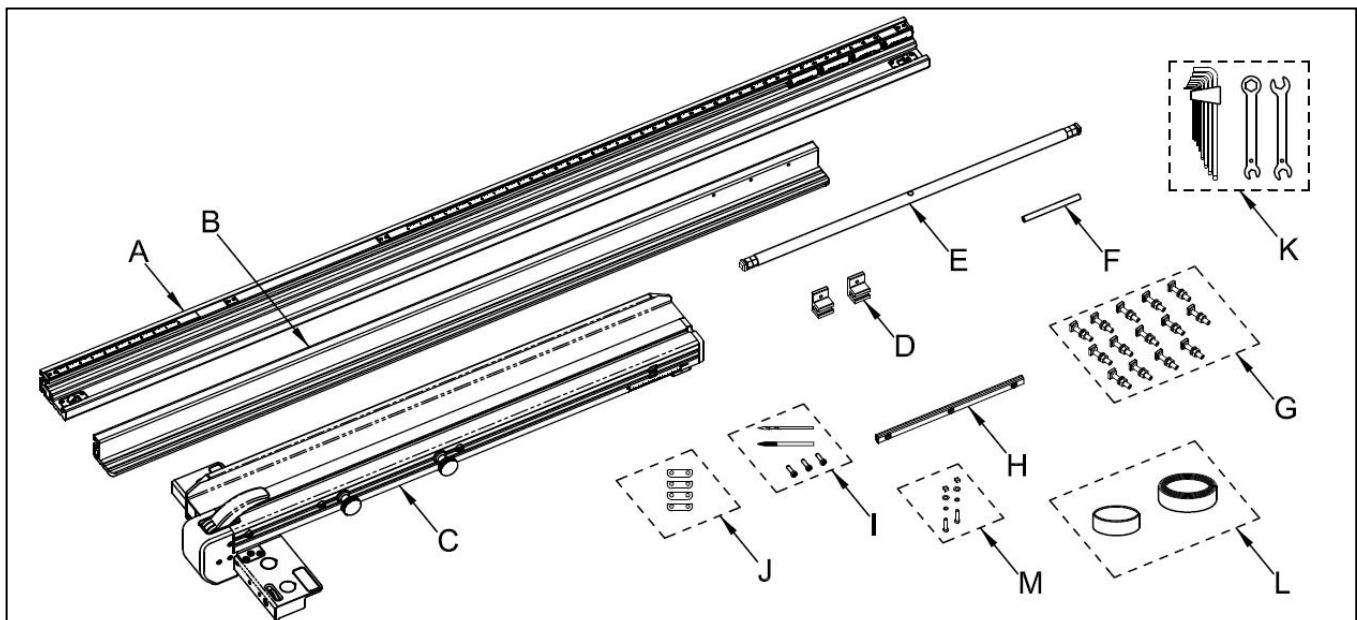
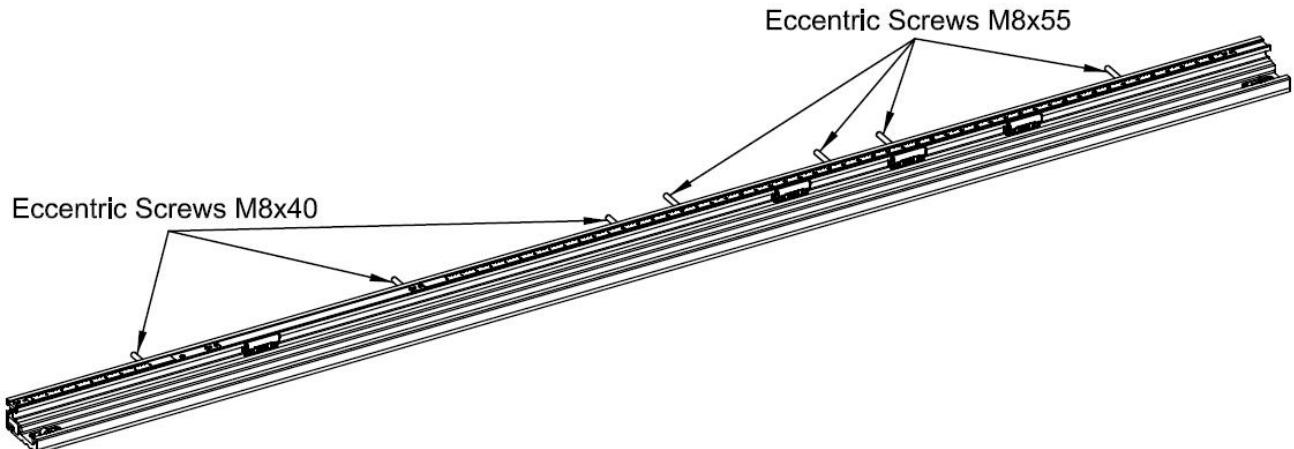
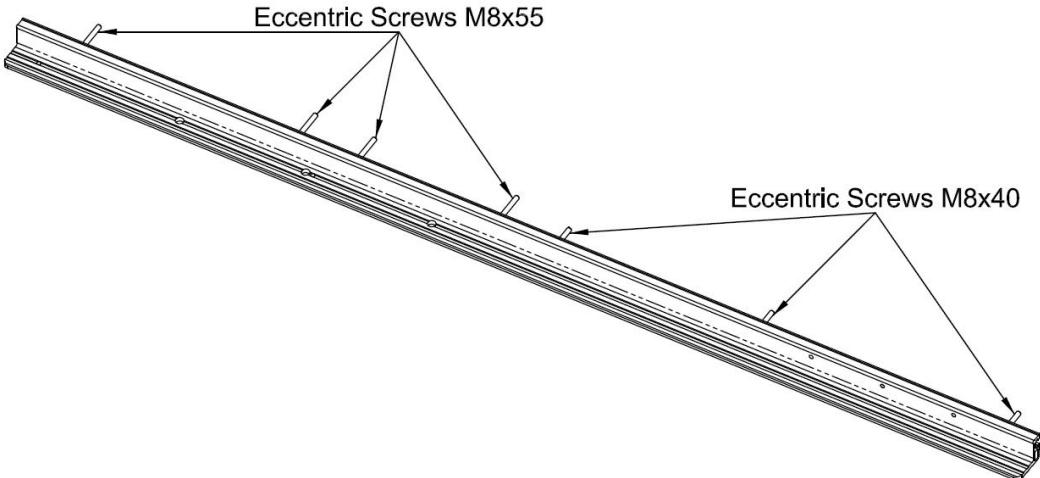
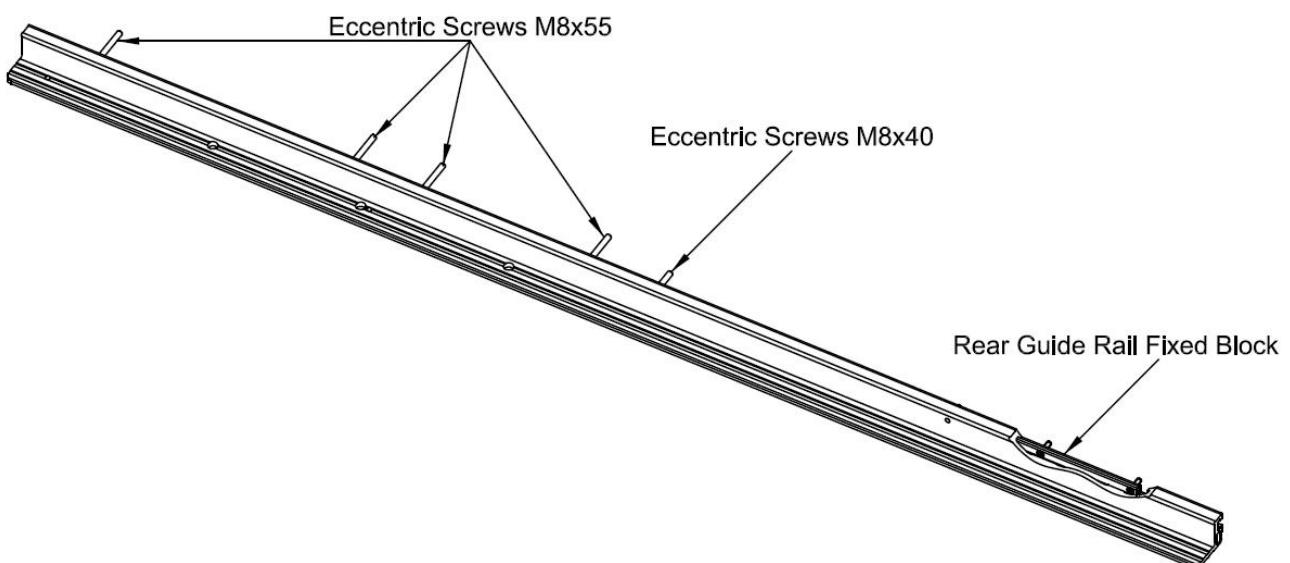

Fig. 5-1
Fig. 6-2
Fig. 6-6
Fig. 6-10
Please refer to Fig. 5-1 and the list below to verify your product.
1. Carefully insert the eccentric screws (**Item G from Fig. 5-1**) into the T-slot of the Front Guide Rail Assembly (**Item A from Fig. 5-1**), as shown in **Fig. 6-2**. 1. The use of M8x40 eccentric screws is intended for the cast iron table to prevent interference with any of the cast iron rib sections. For securing the wooden or phenolic table, utilize the M8x55 eccentric screws.
- Carefully slide the eccentric screws (as depicted in **Fig. 5-1; Item G**) into the T-slot of the Rear Guide Rail Assembly (illustrated in **Fig. 5-1; Item B**), following the specifications and positioning detailed in **Fig. 6-6**. Ensure that the orientation of all eccentric screws matches that of the front guide rail.
3. Insert the eccentric screws (**Item G from Fig. 5-1**) into the T-slot of the Rear Guide Rail Assembly (B), aligning them according to the specifications and positioning shown in **Fig. 6-10**, and confirming that their orientation matches that of the front guide rail.